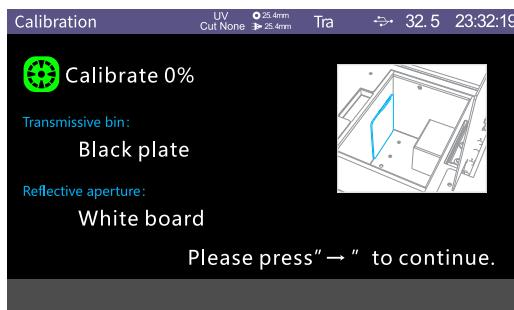

Figure 7 Transmission Black Calibration
- 1、 Enter into main menu as shown in Figure 3, click “Calibrate” to enter 0% calibration. Place the transmission black plate into transmission sample bin and stick it to the side of integrating sphere tightly, close the cover, and click the test key to start calibration.as shown in Figure 7.
- 1、 Enter the main menu as shown in Figure 3, click “Calibrate” to enter 0% calibration. Place the transmission black plate into transmission sample bin and stick it to the side of integrating sphere tightly, close the cover, and click the test key to start calibration.as shown in Figure 7.